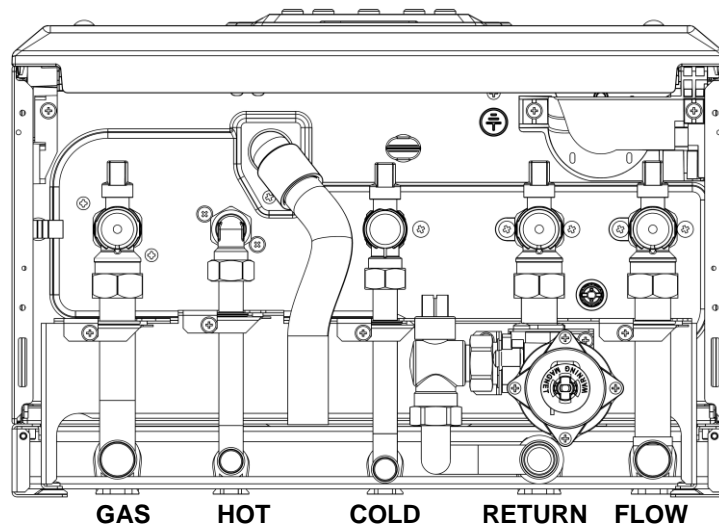

Fig.3
**b. Pipework Connections To Jig- See Fig. 3**